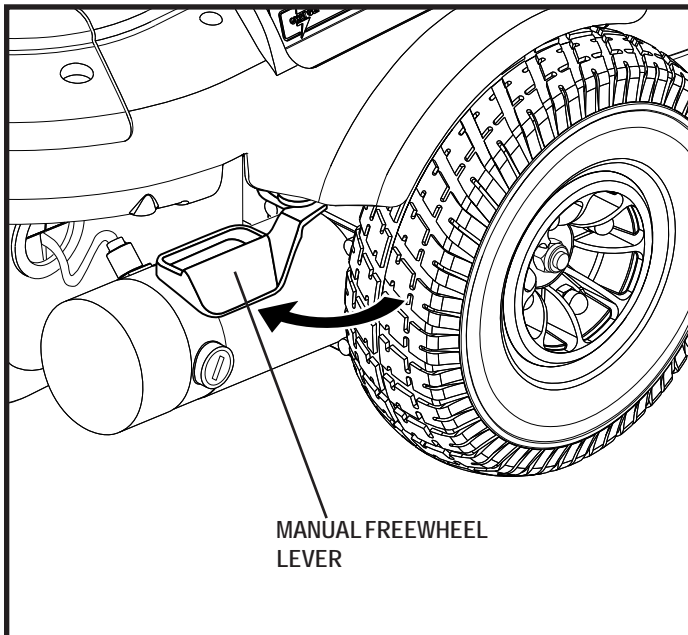

Figure 4. Drive Mode (Drive Engaged)
2. Push the two levers inward to engage the drive motors (drive mode). **See figure 4.**